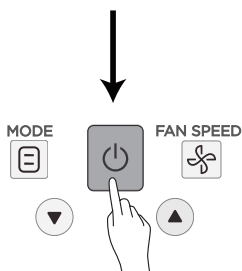

Figure 4.5
- ② Press  and  to adjust the parameter value;
- ③ Once the adjustment is done, press  or wait for 5 seconds to save the parameter settings. The operation sequence for the buttons is as shown in Figure 4.5.